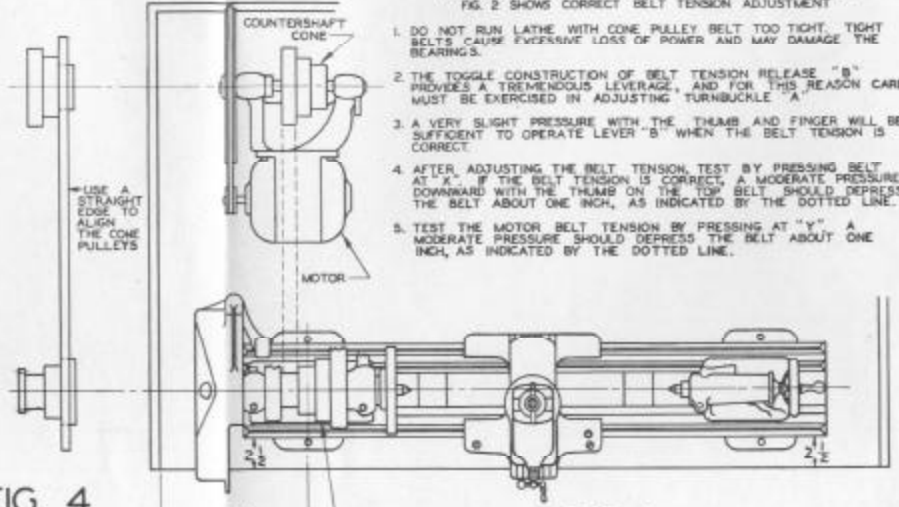

FIG. 4
2. SET COUNTERSHAFT ON BENCH. SEE FIG. 2. ALIGN COUNTERSHAFT WITH LATHE USING STRAIGHT EDGE FROM CONE TO CONE. SEE FIG. 4. SCRIBE AROUND INSIDE OF SLOTS IN BASE OF COUNTERSHAFT. REMOVE COUNTERSHAFT, DRILL BENCH FOR BOLTS, AND FASTEN COUNTERSHAFT TO BENCH.